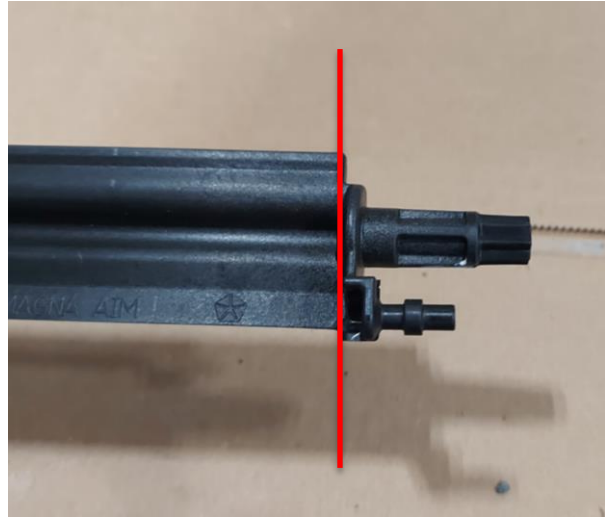

Figure 6
12. We now have to modify the driver's side louver. Using a cutting device (hacksaw, zip disc or similar) cut along the red line shown in Figure 6, yielding the results shown in Figure 7